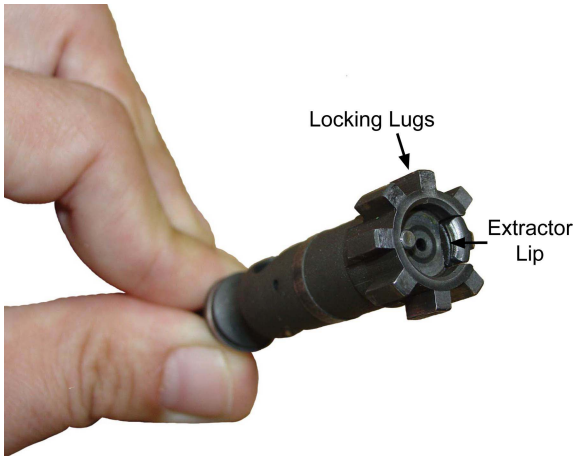

Figure 3-58. Locking Lugs and Extractor Lip
- (5) Carbon deposits and dirt from locking lugs. Refer to Figure 3-58.
- (6) Areas behind bolt ring (refer to Figure 3-59) and under lip of extractor. Refer to Figure 3-58.